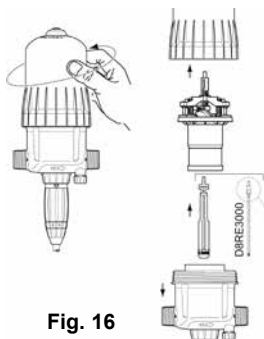

Fig. 17
- Remove the motor piston (**Fig. 17**) by pulling it up.